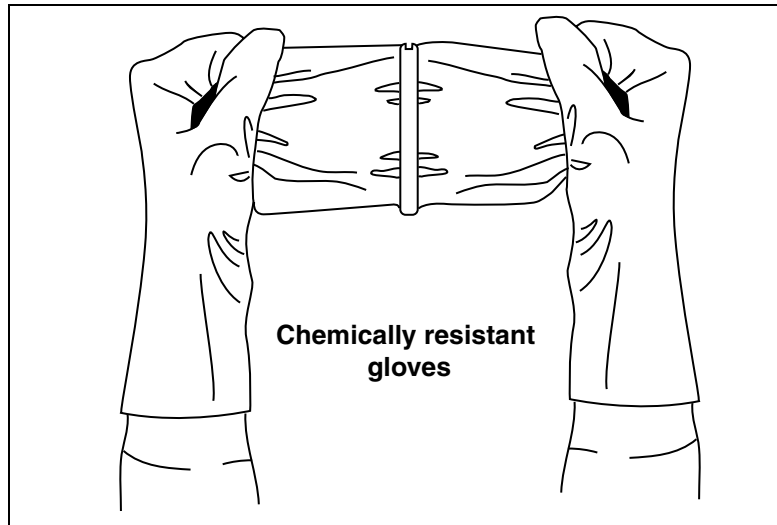

Figure 8. Removing Sealing Compound Clip
4. Remove bag of "Sealing compound" from foil package. Grasp the ends, one in each hand, then pull sharply to remove plastic clip [Figure 8].